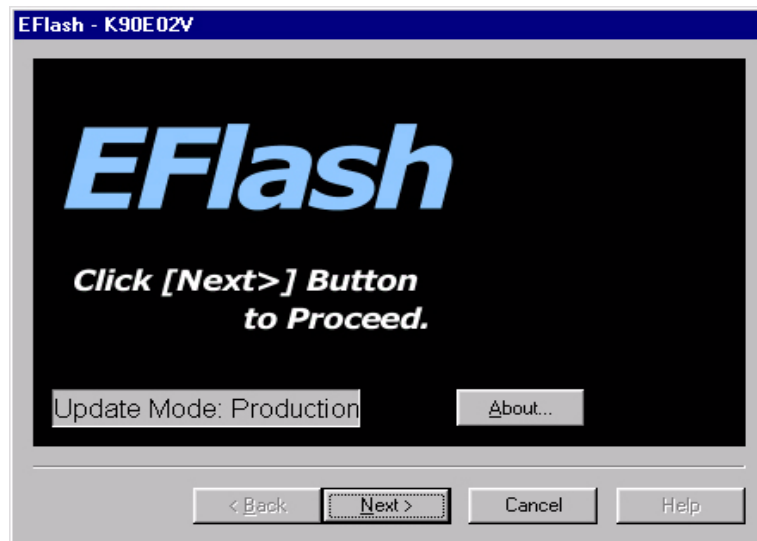
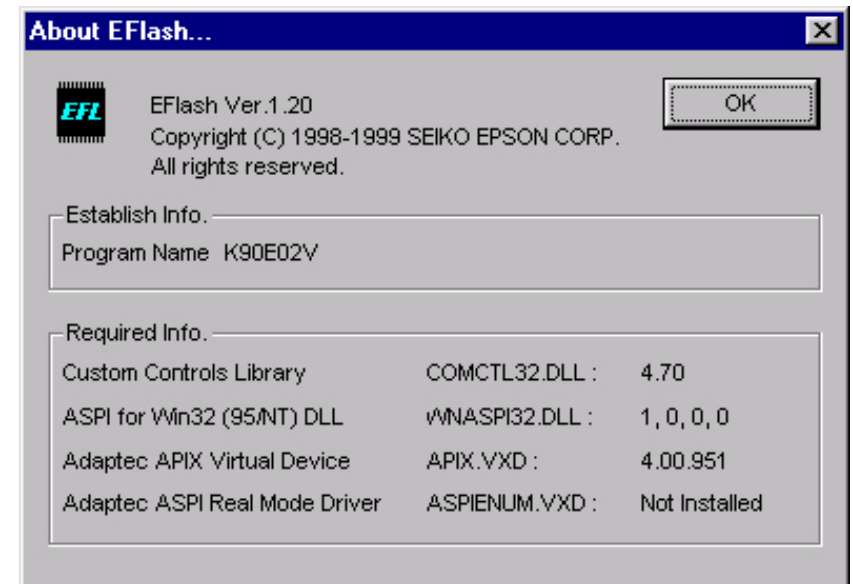
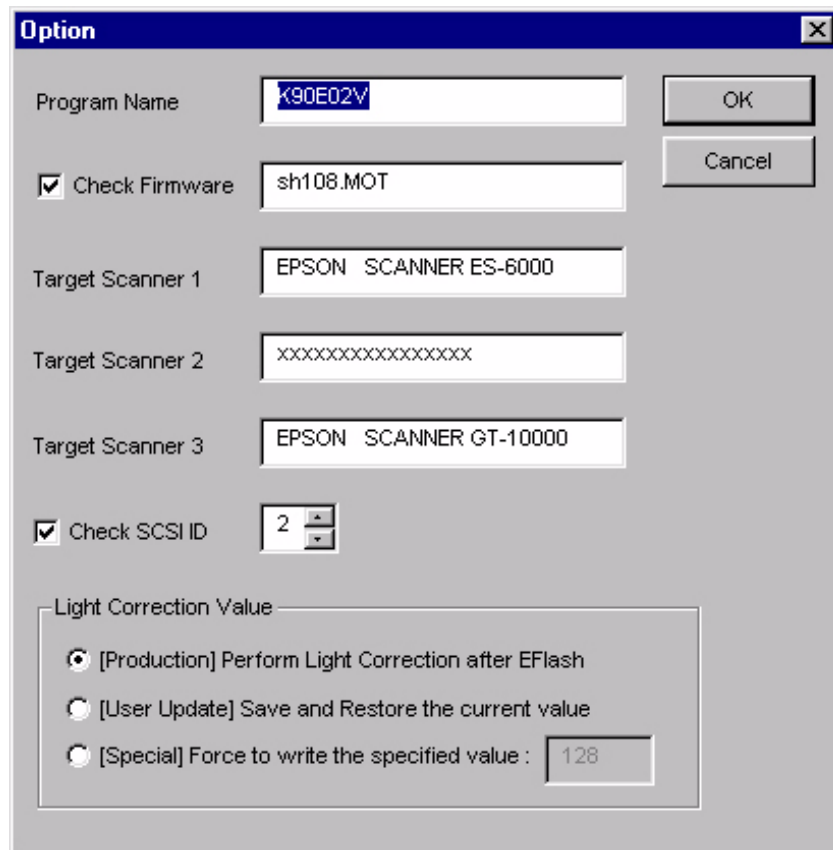

Figure 5-3. Firmware Update Start Screen
Figure 5-4. Firmware Update Requirements and Environment
Figure 5-5. Option Window
3. Bring up EFlash, and the EFlash start screen shown in Figure 5-3 will appear.
4. Click "About" button to display information on the program and the required environment as shown in Figure 5-4.
5. Double-click anywhere in the above screen other than "OK" button to display "Option" screen (shown in Figure 5-5 on the following page), and select light correction value setting for the firmware update at "Light Correction Value". If the light correction is necessary after updating the firmware, select "[Production] Perform Light Correction after EFlash". If firmware update only is desired, select "[User Update] Save and Restore the current value". To specify the light value, select "[Special] Force to write the specified value" and enter the light value.
6. Click "OK" button in Figure 5-5 to go back to Figure 5-4.
7. Click "OK" button in Figure 5-4 to go back to Figure 5-3.
9. In Figure 5-3, click "Next" button and upload the firmware according to the following procedure:
3). When the Flash Reservation is complete, "REBOOT SCANNER!" message box will appear (Figure 5-5).